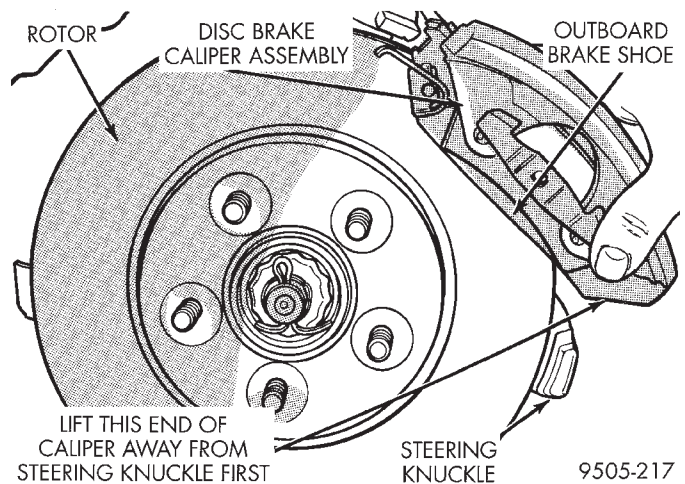

Fig. 61 Caliper Removal From Steering Knuckle
(6) Remove disc brake caliper assembly from steering knuckle. Caliper is removed by first lifting bottom of caliper away from steering knuckle, and then removing top of caliper out from under steering knuckle (Fig. 61).